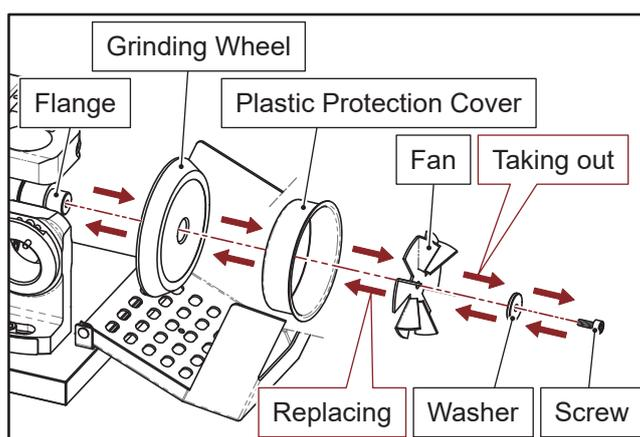

Fig. 16-3
- ④ Loosen the screw from the grinding wheel to take off the grinding wheel. (Fig. 16-3)
- ⑤ Use clean cloth to clean the flange and the contact surface of the grinding wheel.
- ⑥ Replace the new grinding wheel and fasten the screw. (Fig. 16-3)
- ⑦ Close the grinding wheel cover and secure with screw.